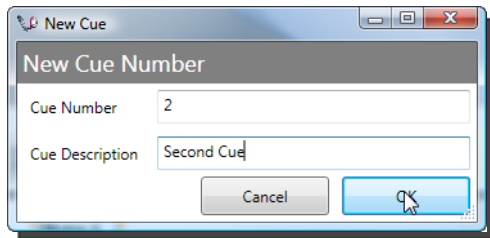

Figure 208
2. A dialog appears prompting you for a **Cue Number** and **Cue Description** (Figure 208).